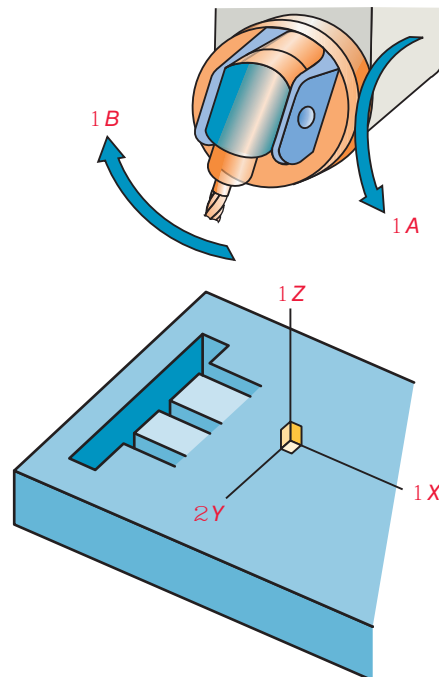

Figure 24-38 The five axes with one negative sign.
1. Five axes are shown in Fig. 24-38.